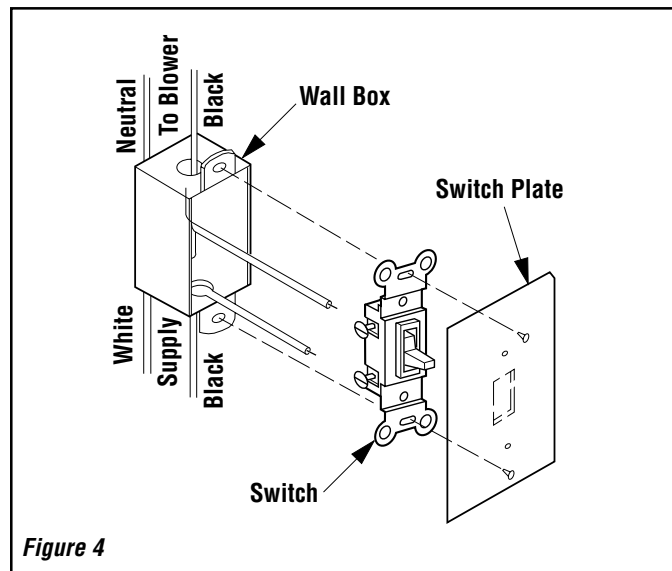

Figure 4
**Step 5.** Connect the wall switch (not provided with blower kit) to the supply wires in the wall receptacle box (**Figure 4**).